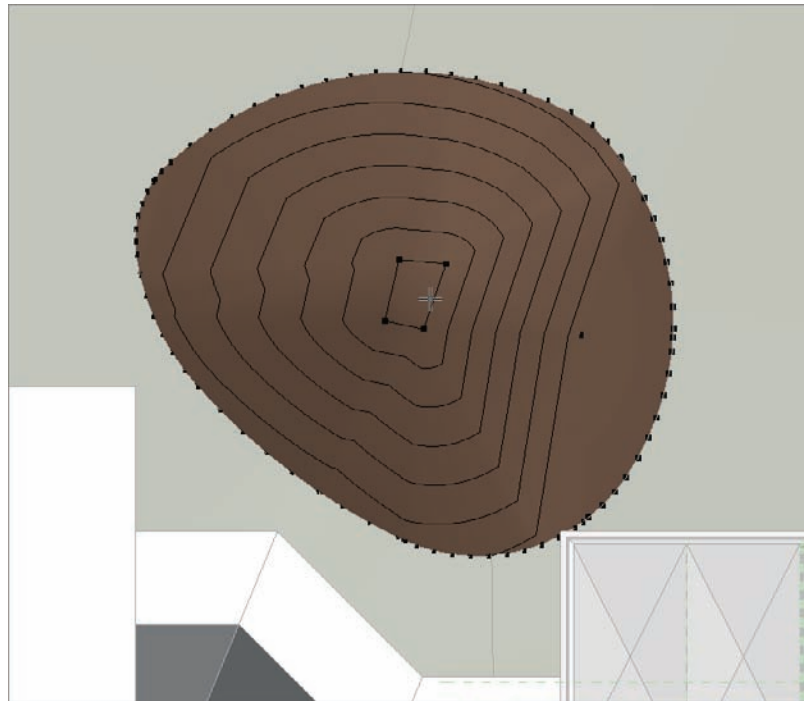

FIGURE 18.9 Adding a new datum elevation
1. Select the newly formed toposurface, as shown in Figure 18.9.
5. Pick four points near the center of the hill (see Figure 18.9).